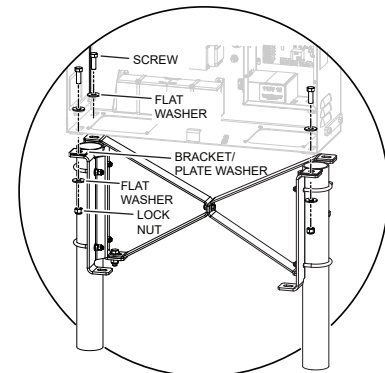

Figure 15. SlideSmartDC HD to Base Riser
8. With assistance, lift, set, and align gate operator on brackets. See Figure 15.
9. Secure the operator to the brackets using a bolt (4), flat washer (8), and lock nut (8). See Figure 15.